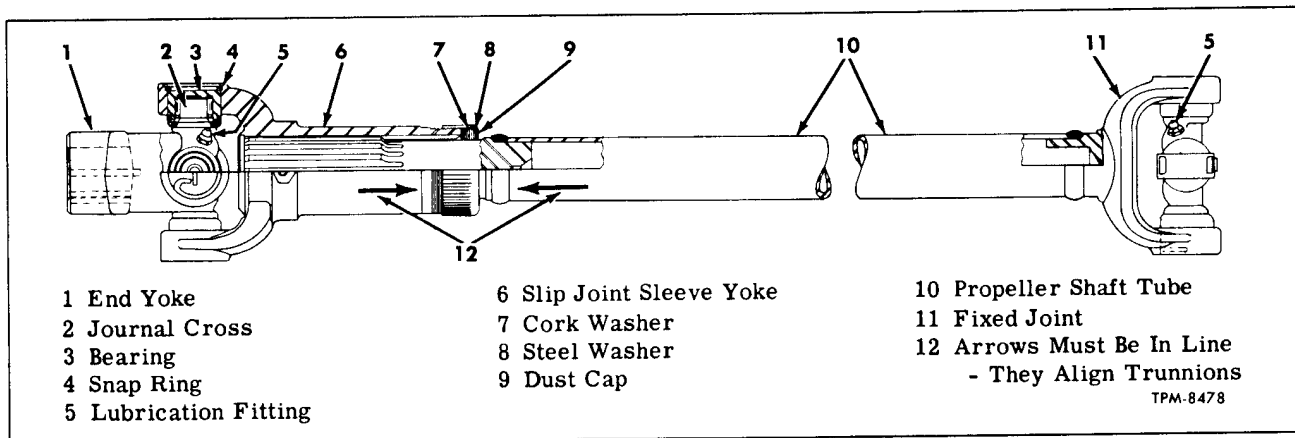
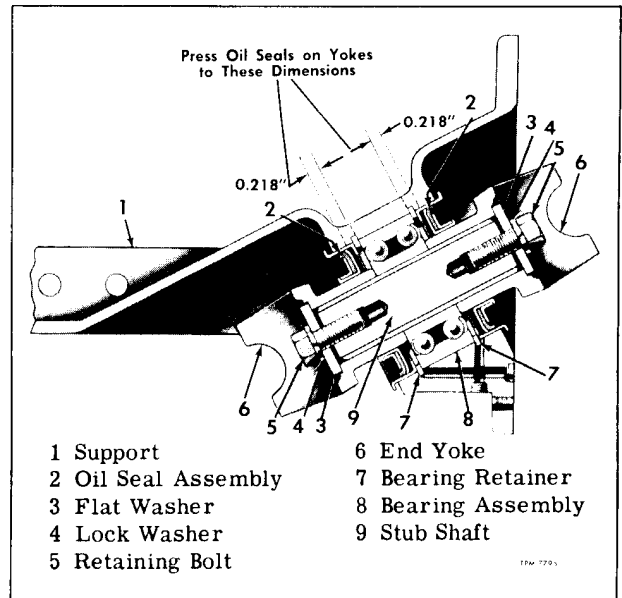

Figure 9—Steering Propeller Shaft (Front Shaft Shown)
Figure 10—Steering Propeller Shaft Support
Steering propeller shafts and center bearing support assembly, which transmit motion between steering column bevel gear and steering gear, are illustrated in figure 1. Propeller shafts (fig. 9) are tubular type equipped with needle bearing type universal joints at each end, also a splined slip joint to absorb endwise movement. Center bearing support assembly (fig. 10) is supported by a bracket riveted into body understructure.
Key numbers in text refer to figure 9.
Front and rear steering propeller shafts are connected and supported by the center bearing support assembly which is attached to coach under-structure (fig. 10).
1. Install one bearing retainer (7) into groove in propeller shaft center bearing support (1).
2. Install bearing (8) in support; then install opposite bearing retainer (7). Carefully check both bearing retainers to be sure they are fully seated in their grooves.
3. Press new oil seal (2) assembly onto each end yoke (6) to dimension shown in figure 10.
4. Install one yoke and seal assembly onto stub shaft (9) and secure with flat washer (3), lock washer (4), and retaining bolt (5).
5. Apply a liberal coating of grease to lip of oil seals. Install stub shaft (9) and yoke assembly into support and bearing; then install remaining yoke and oil seal assembly. Install yoke retaining flat washer, lock washer, and retaining bolt; then tighten both yoke retaining bolts (7).